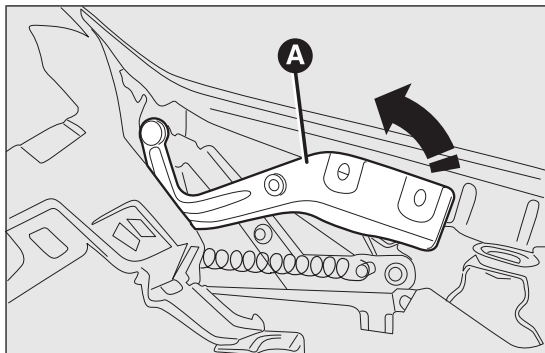

fig. 85
- ☐ lift the engine bonnet supporting lever A fig. 85 and move it until it clicks.